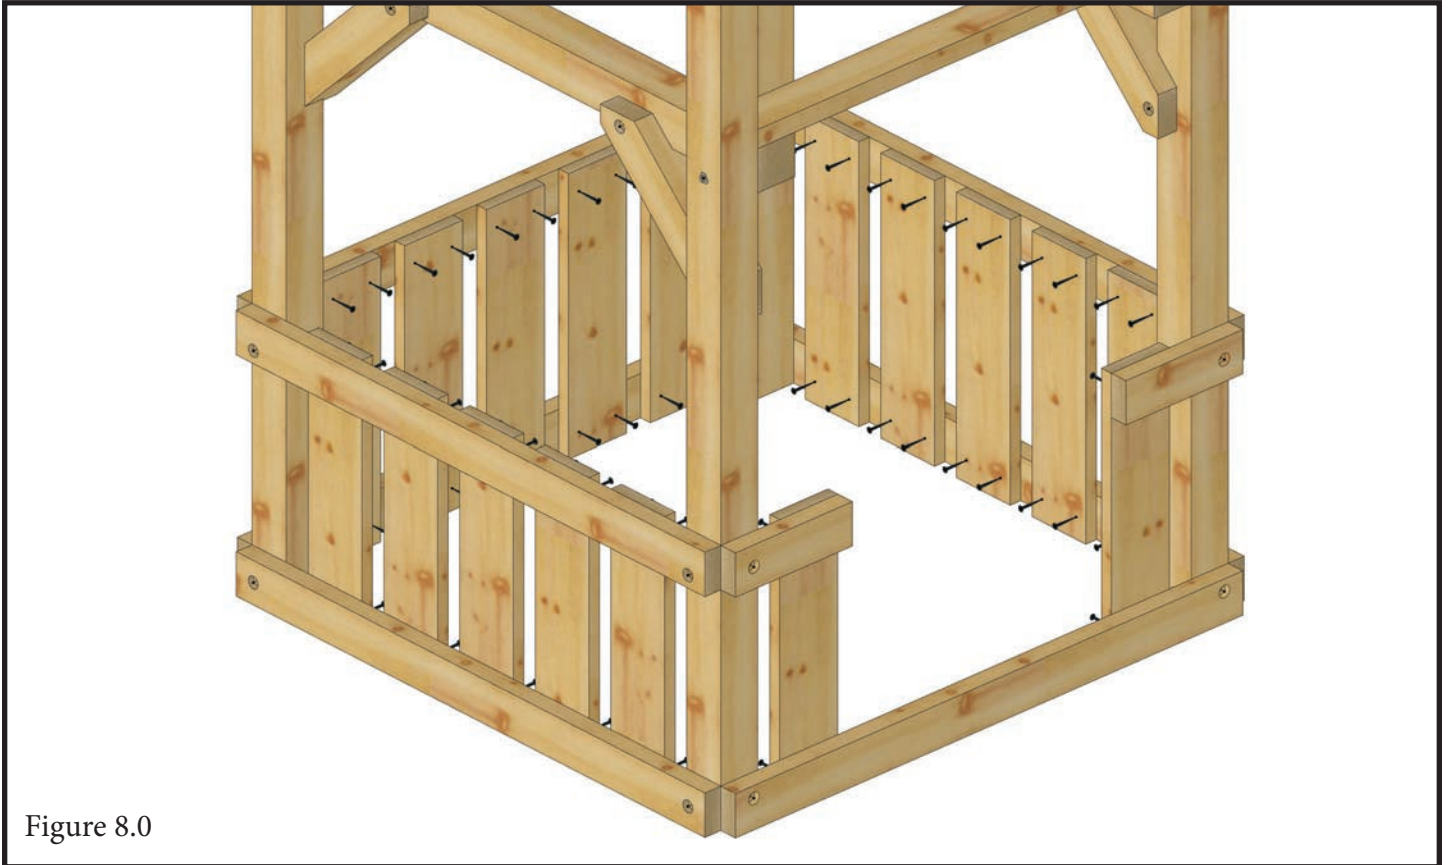

Figure 8.0
8.1 Pre-drill and fasten Slat 22.5" to Top Panels with #8x2 screws as shown in Figure 8.0. (Spacing between slats is about 2-1/4")